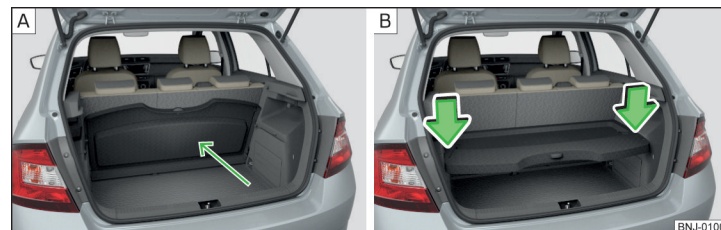

Fig. 87 Luggage compartment cover: stowed behind the rear seats / in the lower position
The removed cover can be stowed in two positions » Fig. 87 on page 87.
The luggage compartment cover can be placed in the following positions: » Fig. 87
- Press the top of the cover in the arrow direction » Fig. 87 - **B**.